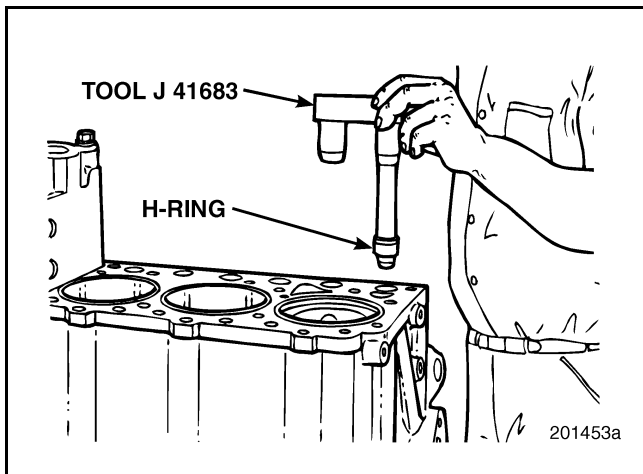
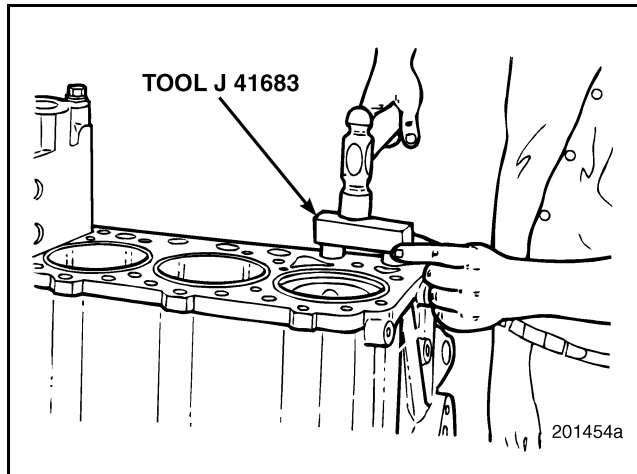

Figure 133 — H-Ring Installation Tool
Figure 134 — H-Ring Installation
4. Use service tool J 41683 to install the H-ring. This tool pilots into two lifter bores at the same time to properly align and install the H-ring. If the proper interference fit has been maintained, resistance should be felt as the H-ring is driven into the bore. Refer to Figure 133 and Figure 134.